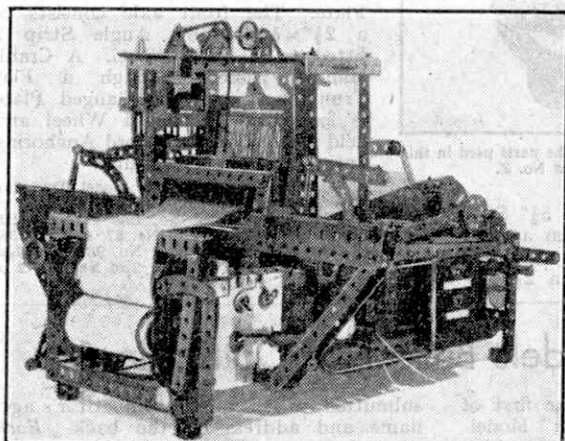

Fig. 1. A fine model loom built by Mr. J. Gallardo, Barcelona.
J. Gallardo, Barcelona, has built the model automatic loom shown in Fig. 1. Its main characteristic is an automatic